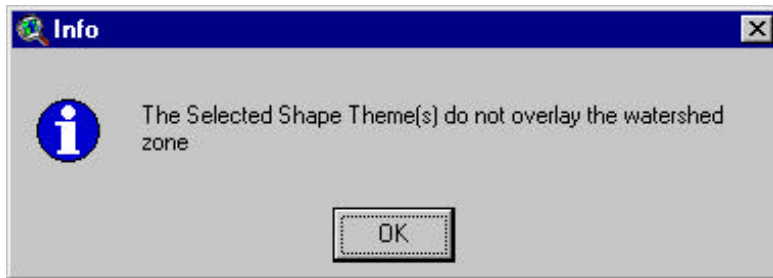

Figure 6.35
4. The *Load and Clip Soil* process might return an unsuccessful report (Figure 6.35) if none of the selected theme(s), either grids or shape, overlay part of the watershed. Click **OK** and the process will be stopped.